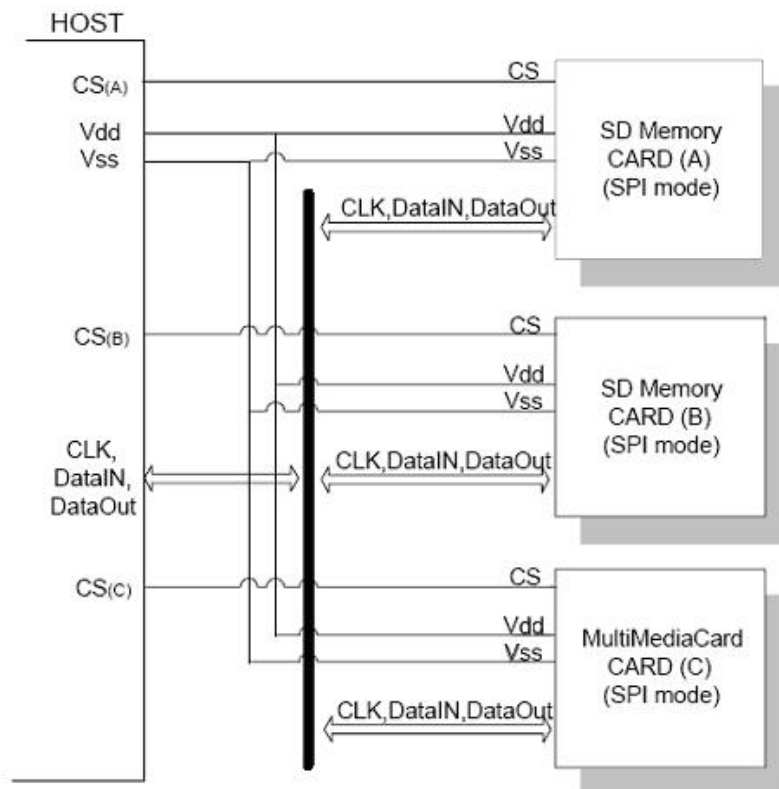

Figure 7-1: SD Card system (SPI mode) bus topology
The card identification and addressing methods are replaced by a hardware Chip Select (CS) signal. There are no broadcast commands. For every command, a card (slave) is selected by asserting (active low) the CS signal (see Figure 7-1).